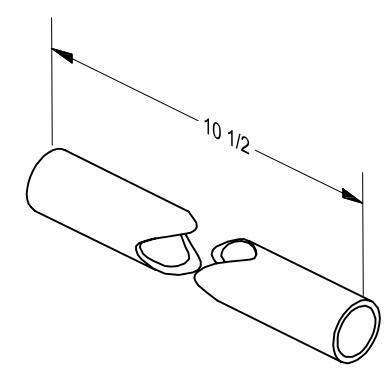

FIGURE 1: CUTTING TUNNEL FUEL LINES
Step 1: Cut two fuel lines per the dimensions in Figure 1. Straighten out the lines at this time.